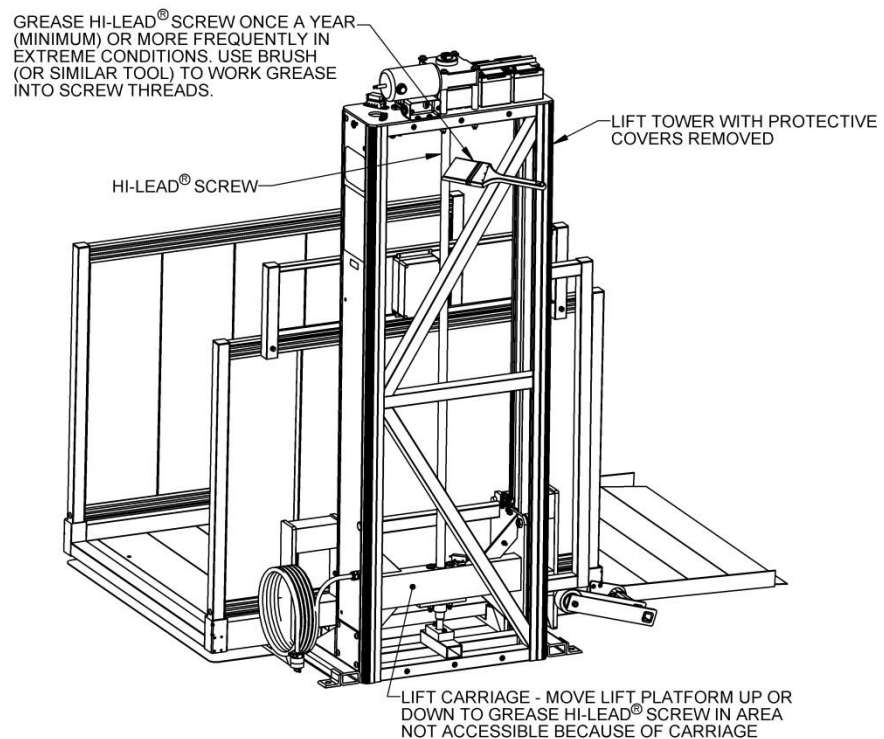

FIG. 14.1
1. The Hi-Lead® Screw which drives the lift platform up and down must be lubricated at minimum once per year or more frequently if the VPL is used in extremely hot or cold locations. Use Chevron Ulti-plex® Synthetic Grease EP, NLGI Grade 1.5, or equivalent. (FIG. 14.1)